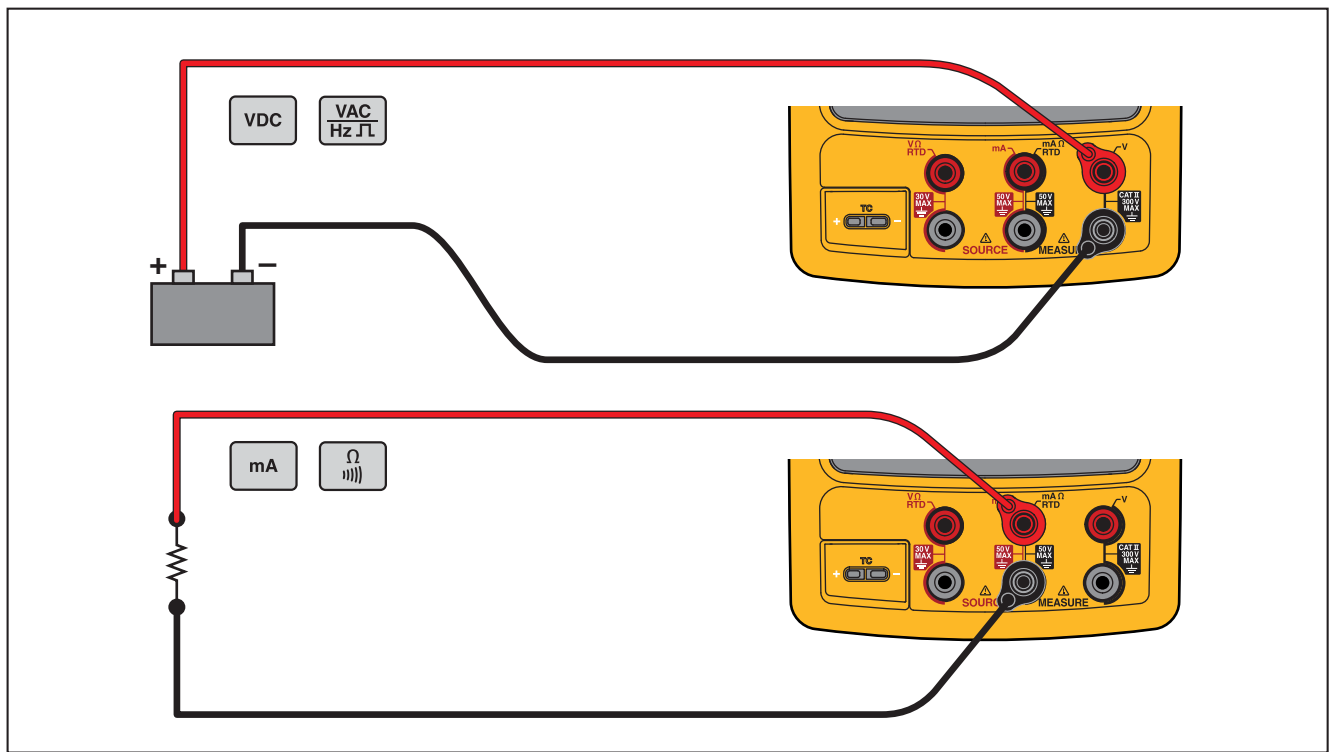

Figure 12. Electrical Measurement Connections
When the Product is turned on, it is in the dc voltage measurement function. Figure 12 shows electrical measurement connections. To select an electrical measurement function from SOURCE or MEASURE/SOURCE mode, first push  for MEASURE mode:
2. Connect the test leads for your measurement function as shown in Figure 12.
4. Connect the Product to the circuit under test. See Figure 12.